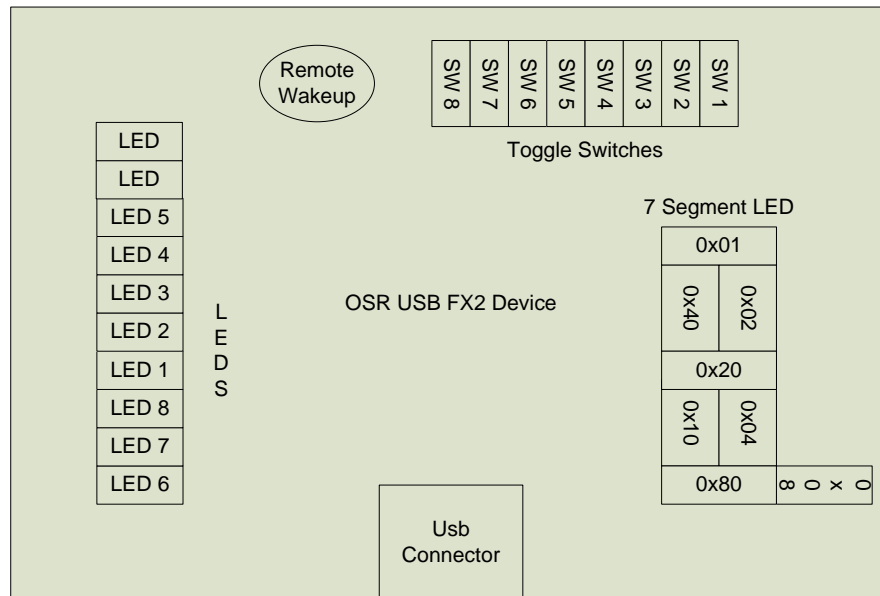

Figure 2 - OSR FX2 Device Layout
Below, Figure 2 gives a general layout of the device, its various LEDs, Switches and Segmented LEDs. The reader should note the numbering on the various LEDs, Switches and Segmented LED because the input and returned bitmasks represent their placement on the device.
- The numbering of the LEDs in the bar graph block is not intuitive. When reading the state of the LEDs a returned value of 0x08, indicates that "LED 1" is on, whereas a returned value of 0x10, indicates that "LED 2" is on. The numbering shown in Figure 2 should make this clear. In case you didn't see it mentioned above, the top 2 LEDs in the bar graph aren't connected to anything... so you won't be able to light them.
- The switch numbers, as addressed by the device firmware, are reversed from the number printed on the switch pack on the board. For example, a returned value of 0x01 indicates that Switch 1 is toggled, even though it is numbered "8" on the switch pack on the board. Again, the numbering shown in Figure 2 shows the actual number used by the firmware.
- For the 7-segment display, the hex values shown in Figure 2 correspond to the value to be passed to the board to light the indicated segment of the display. For example, to display a "1" in the display, you'd want to light the two right-most vertical display segments. To light these two segments, send the value 0x6, which is 0x02 (to light the top right-most vertical bar) OR'ed with 0x04 (to light the bottom right-most vertical bar). If you're wondering what the funny little block with the value 0x08 is on diagram, it's for the decimal point. So, actually, it's an 8-segment display, isn't it.